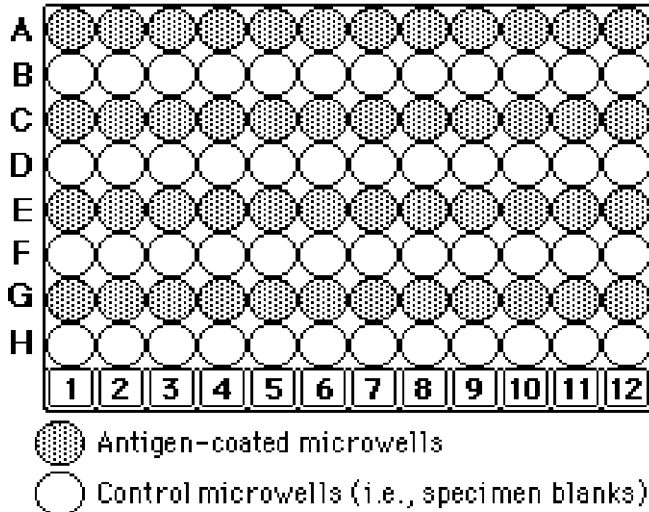

Fig 1. Distribution of antigen-coated and control microwells for EL-RF 96 microwell plate
1. RF Microwell plate (Fig. 1)